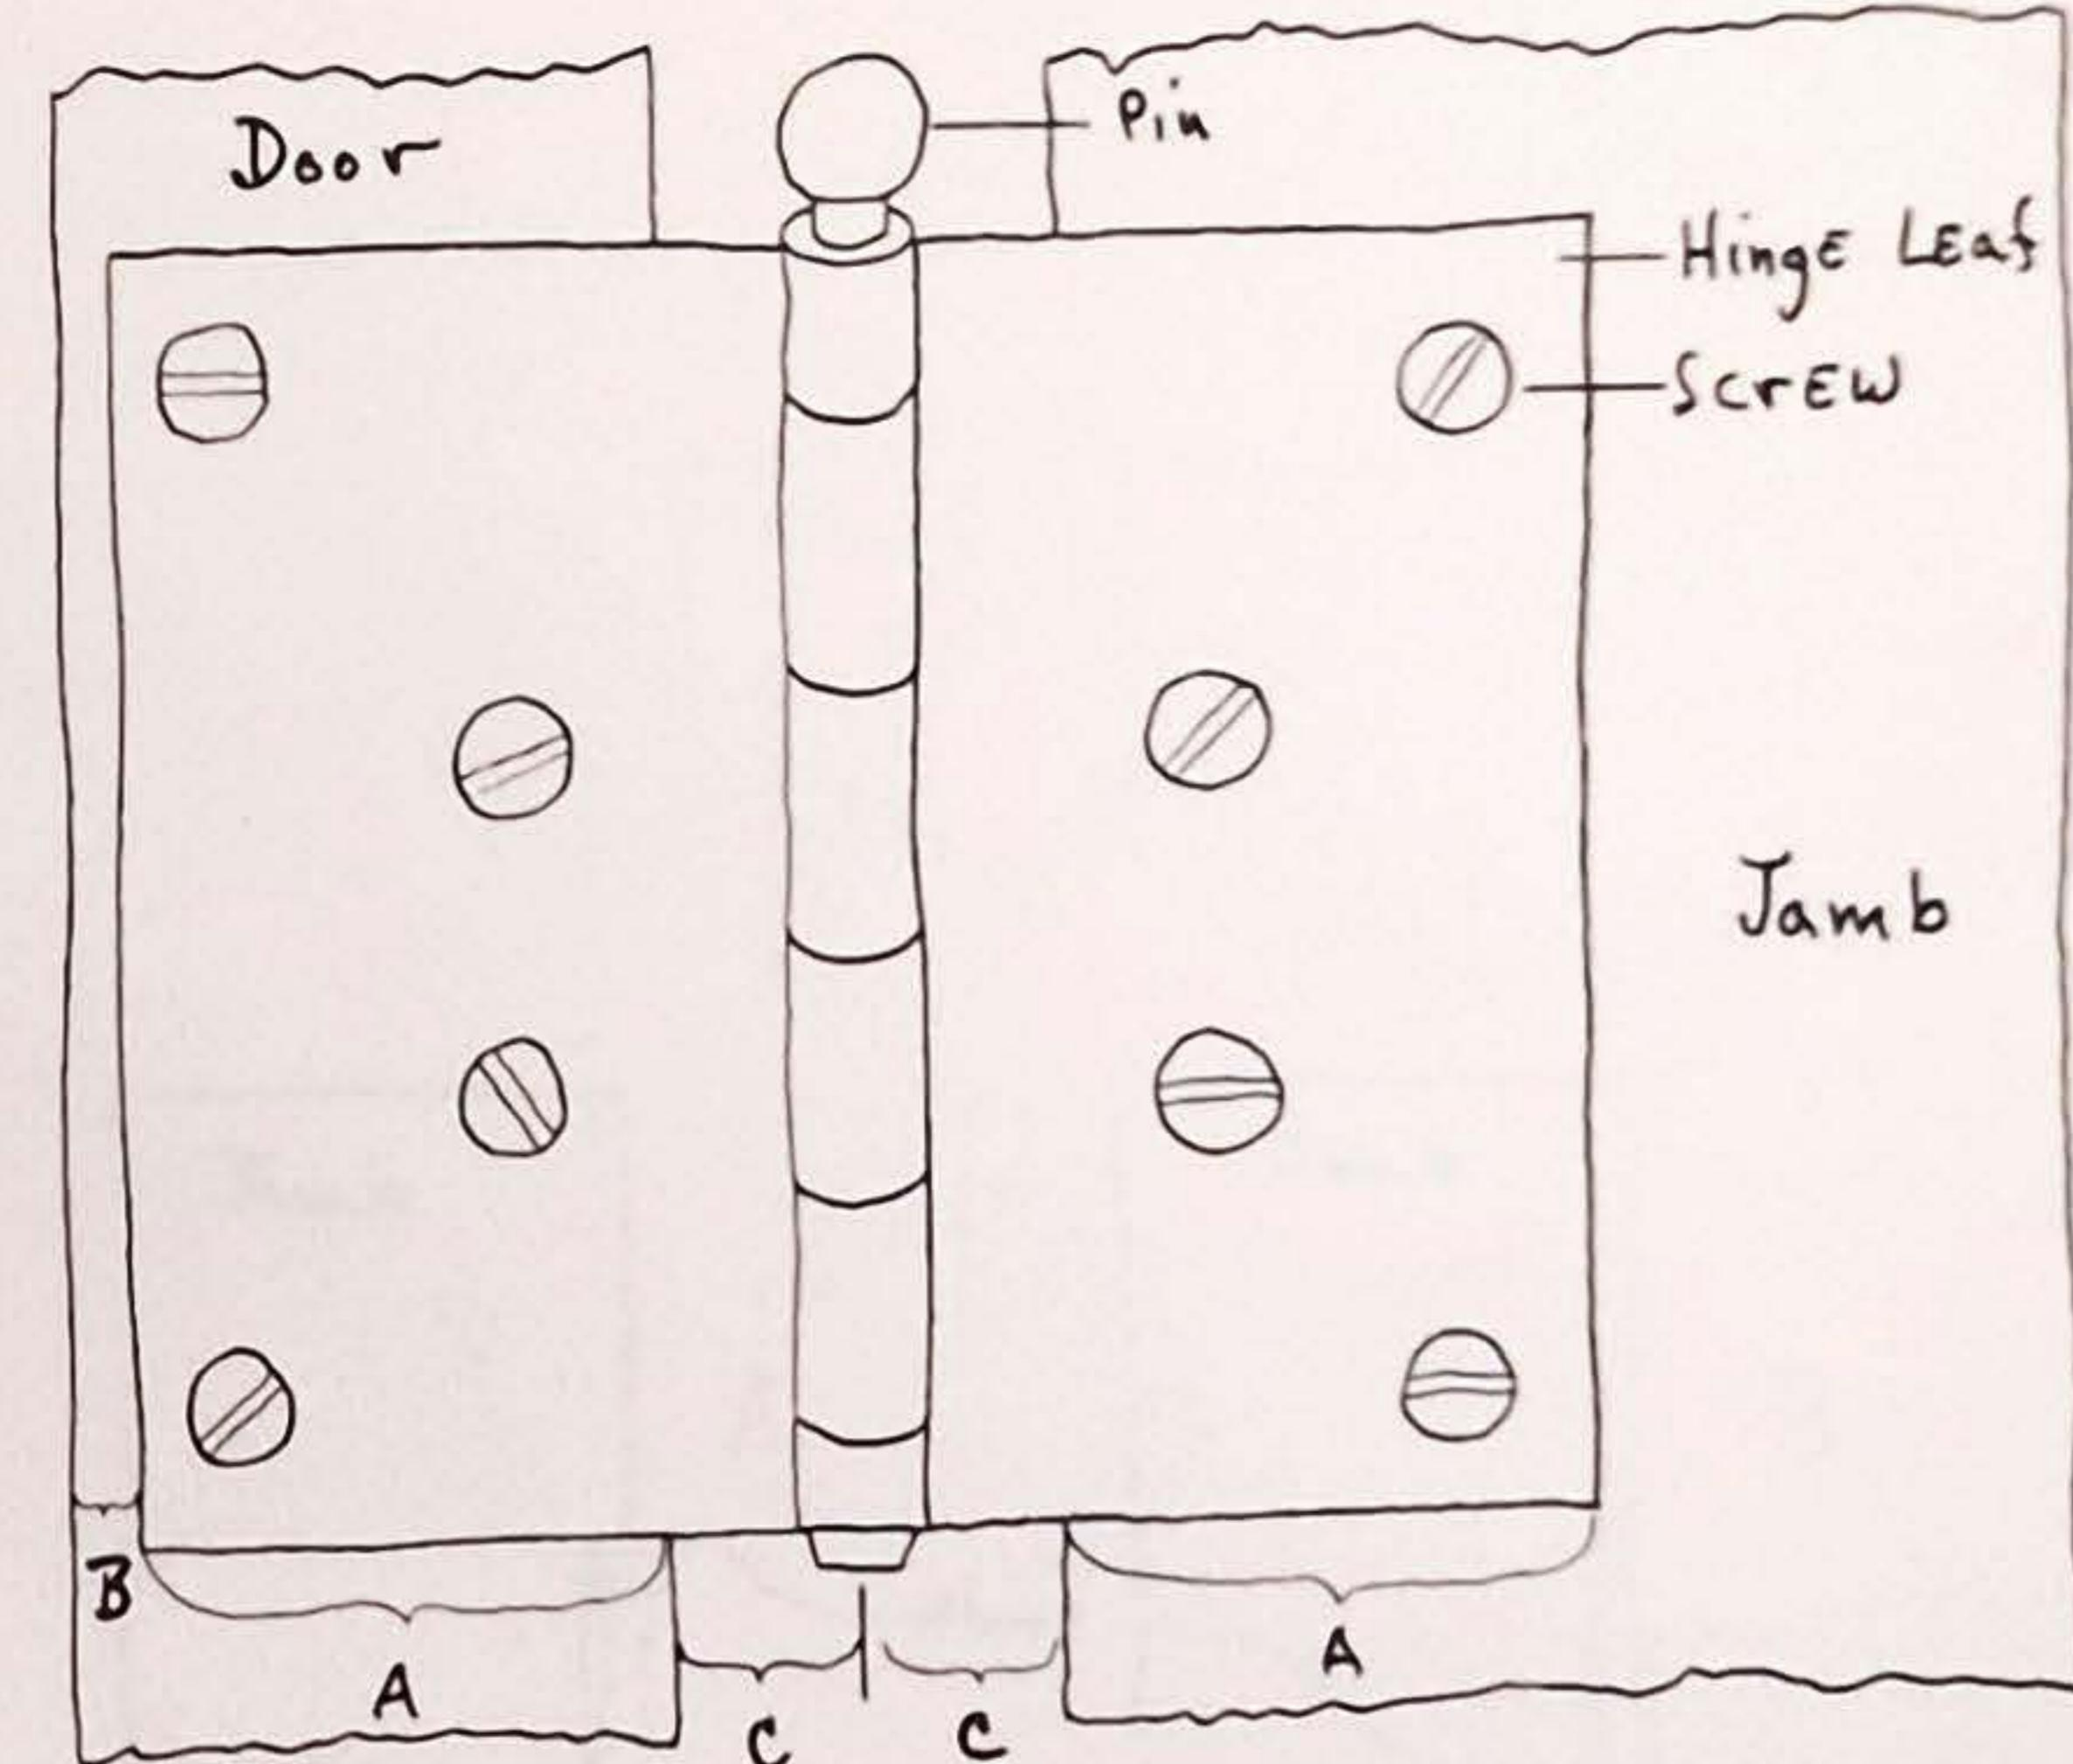

Fig. 8 - Hinge Position on Door and Jamb
3. Lay out the position of each hinge on the edge of the door between the layout marks for each hinge. Fig. 8. The hinge is set into both the door edge and the jamb the same distance--"A". "A" cannot be so great that distance "B" is less than $1/8$ ". When the door is to be flush with the edge of the jamb, as most doors are, there must be a clearance--"C"--the distance from the edge of door to the center of the hinge pin. Clearance--"C" must be equal to one-half the overall thickness of the door trim, or the door will hit the door trim and not open fully.
If you are hanging an old door which has hinges attached to it, make the hinge pockets in the side jamb--especially distance "A". Fig. 8. Match the hinge pockets already on the door.